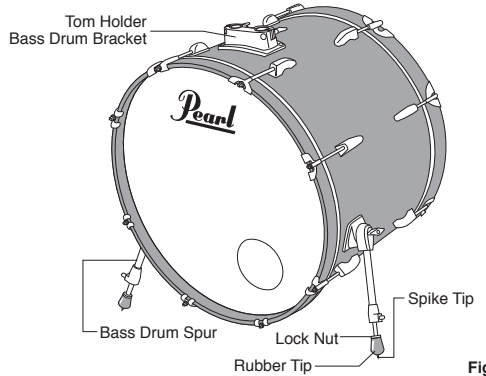

Fig.3
4. Position the bass drum upright and set the bass drum spurs as shown with the front of the drum about an inch off the floor (Fig.3). The bass drum spurs have spike tips (for added slip resistance) that can be exposed by turning the lock nut and rubber tip clockwise.